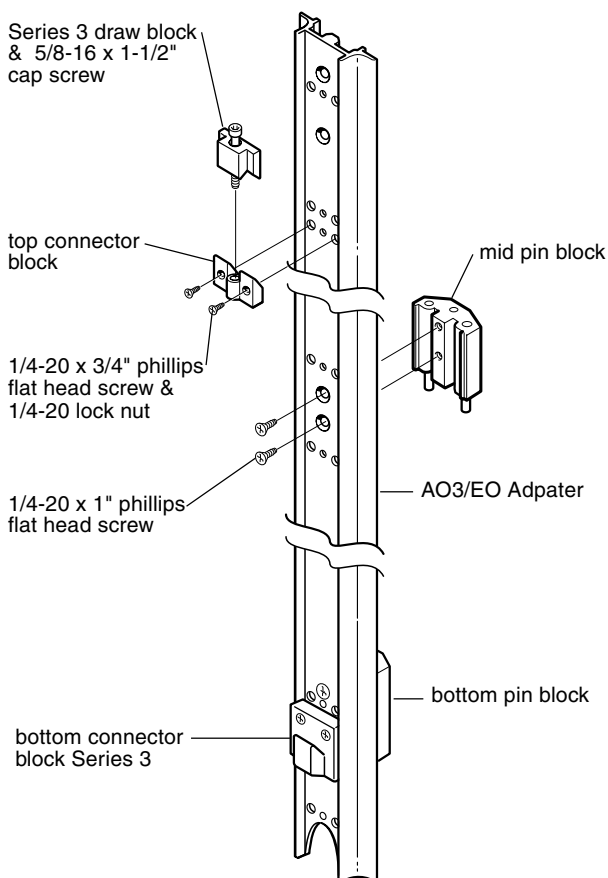

Figure 1
1. Determine proper location for *top connector block* (Series 3 panel height) and assemble to adapter with two 1/4-20 x 3/4" phillips flat head screws and 1/4-20 lock nuts. (Figure 1)
7. Install draw block with a 5/16-18 x 1-1/2" socket cap screw provided. (Figure 1)